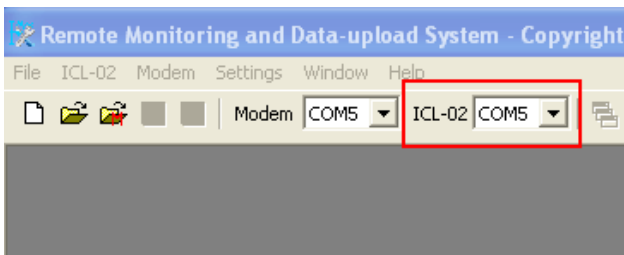

Figure 4. Select ICL COM port
4. Select the COM port³ which the ICL is connected to, see Figure 4.